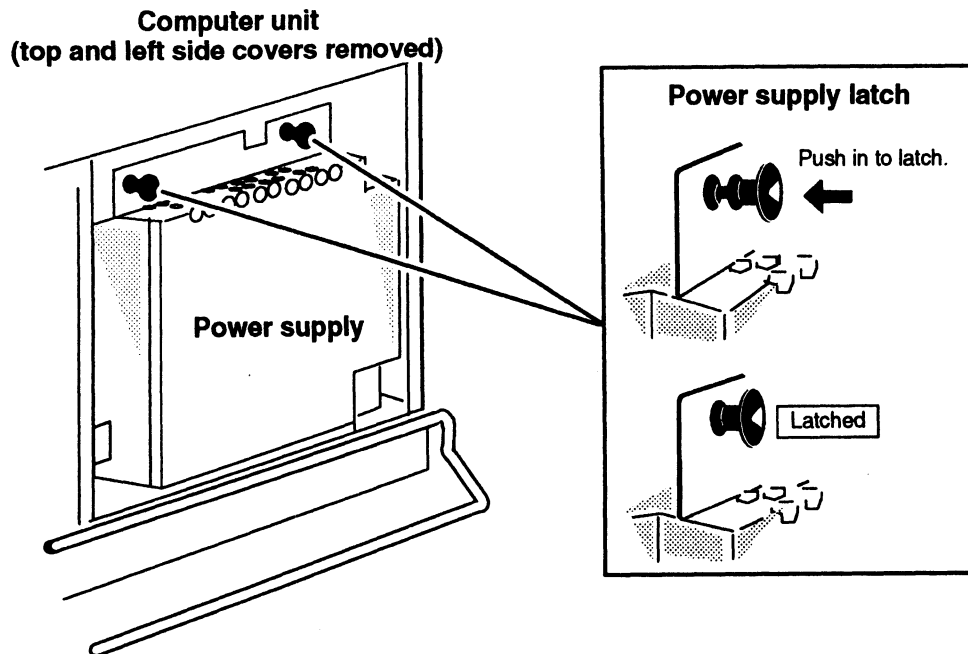

Figure 11-7 Securing the Power Supply to the Computer Unit
4. Secure the power supply to the computer unit by pushing in the two power supply latches shown in Figure 11-7.